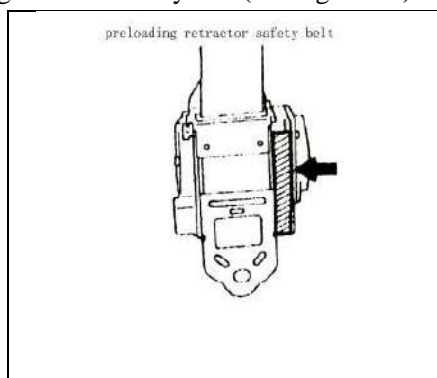

Fig 19-21
(7) Preloading retractor safety belt (See fig 19-21)